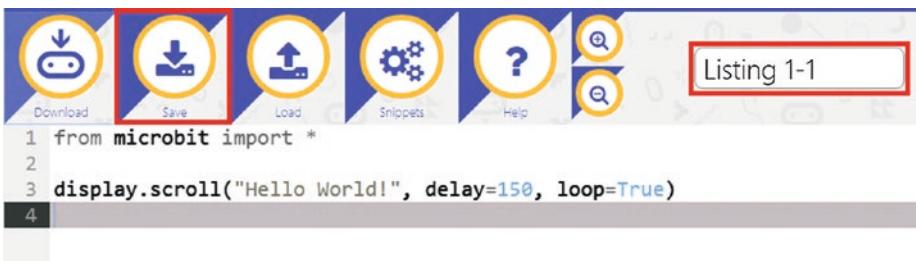

Figure 1-24. Saving the python source file (.py)
9. Type the file name Listing 1-1 in the Filename box and click the Save button to save the Python source code to your computer as a .py file (see Figure 1-24). By default, the source code file will download and save on your computer's Downloads folder. The editor will automatically replace any spaces in the file name with underscores. Therefore, you will get a file named Listing_1-1.py.